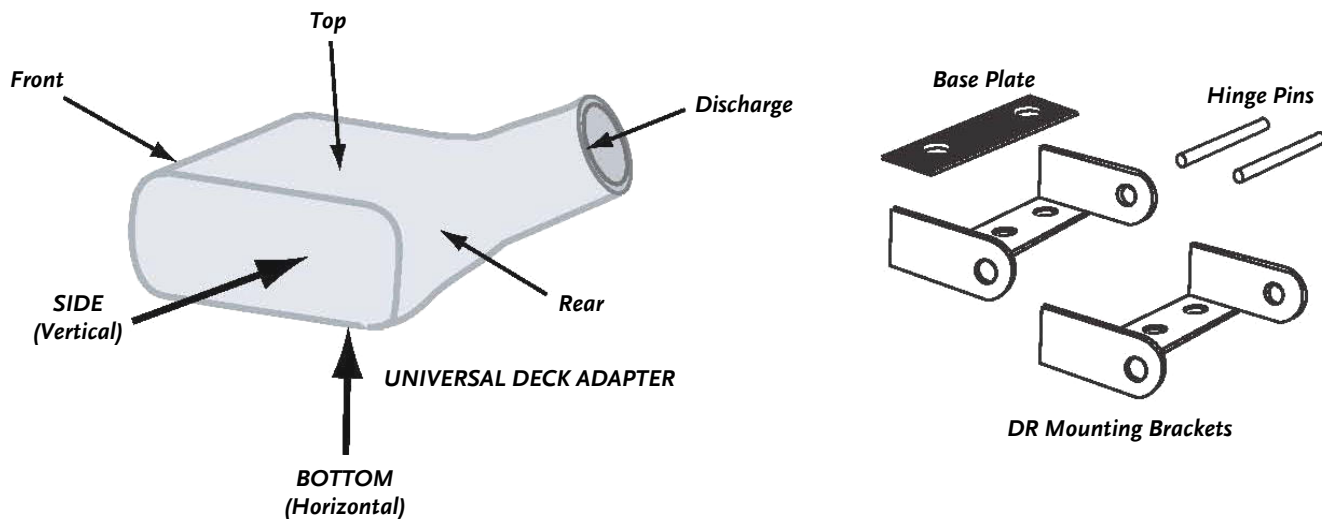

Figure 13
1. Before proceeding with the installation, familiarize yourself with the Parts, and the illustrations of the Universal Lawn Deck Adapter as shown in **Figure 13**.